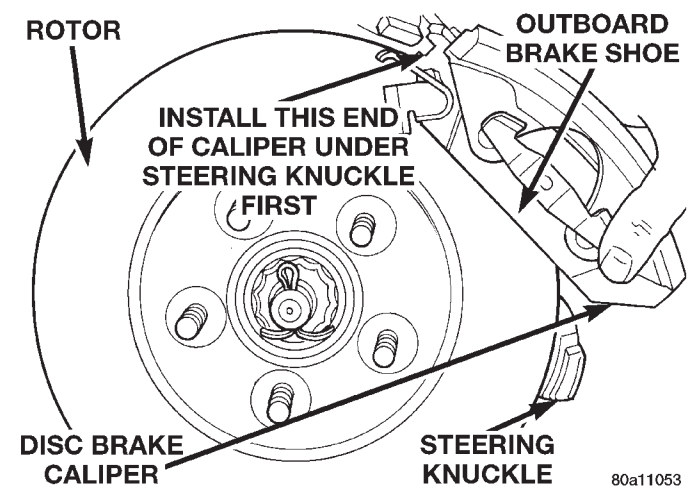

Fig. 92 Installing Brake Caliper
(7) Carefully position brake caliper and brake shoes over brake rotor by first hooking top of brake shoes onto upper abutment on steering knuckle (Fig. 92). Then rotate caliper into position at bottom of steering knuckle.